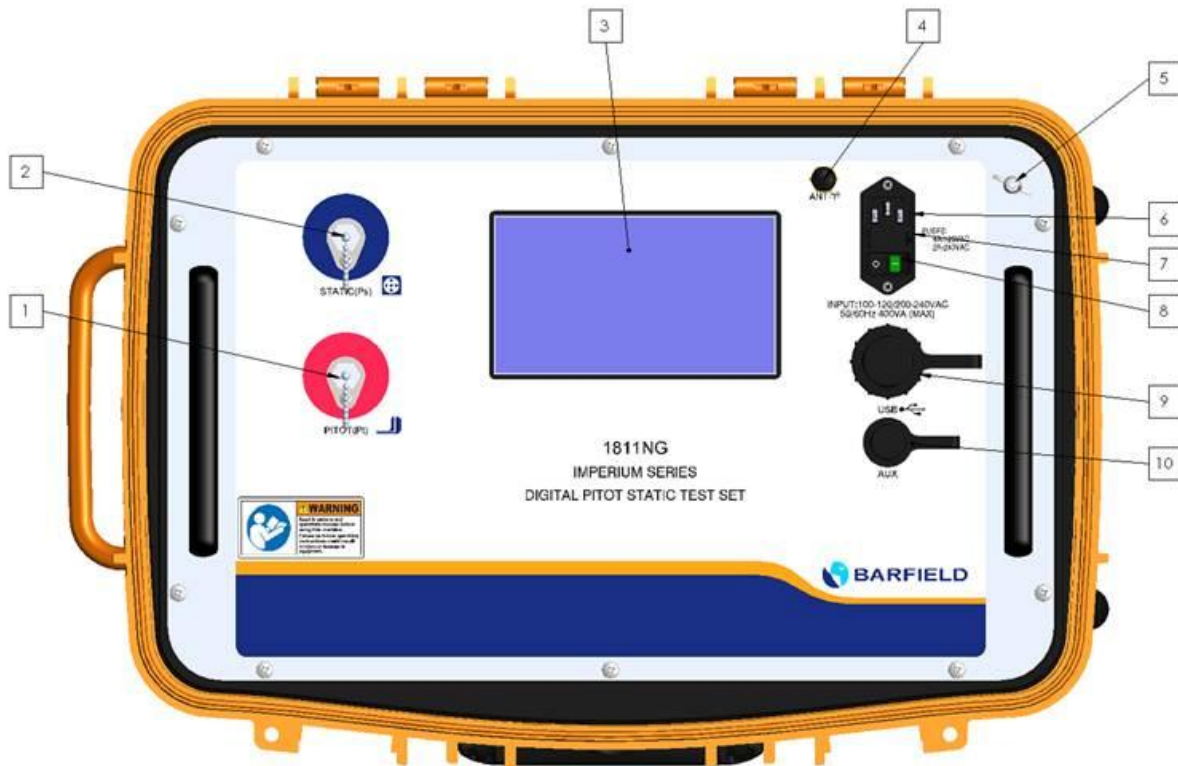

Figure 10 1811NG Front Panel
- B. The 1811NG chassis may be Grounded to the aircraft or instrument under test using the Ground stud located in the upper right corner of the panel as depicted item 5 in Figure 10.
A. Front Panel Switches and Controls (Components shown in Figure 10).